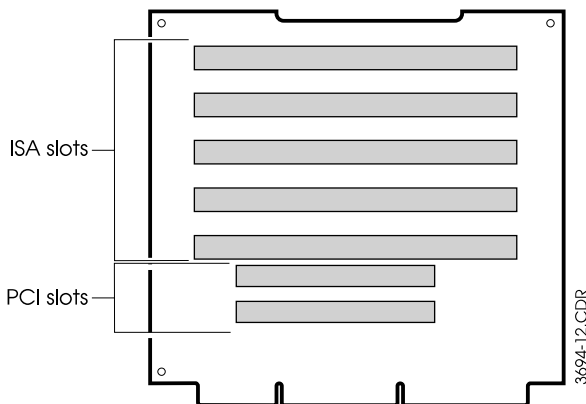

Figure 11. Riser Card Slot Locations
4. Determine whether your add-in card is a PCI or ISA card, then select an unused expansion slot (Figure 11). Be aware that any cables that attach the add-in board to the system board must be threaded around the riser card.